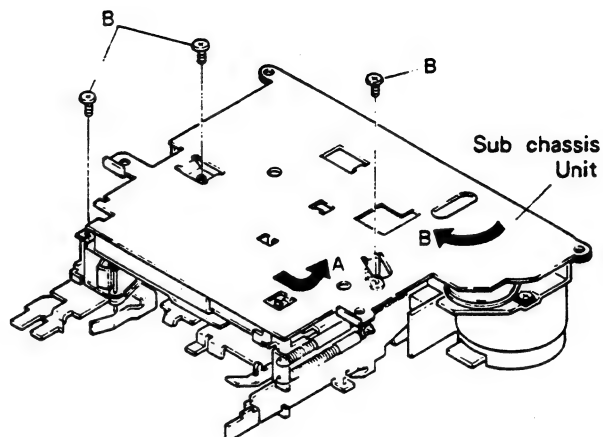

Fig. 2
2. Remove three screws B fixing the sub-chassis unit. Move the unit first in Direction A, then in B direction, and lift it upward for removal. (Fig.2)